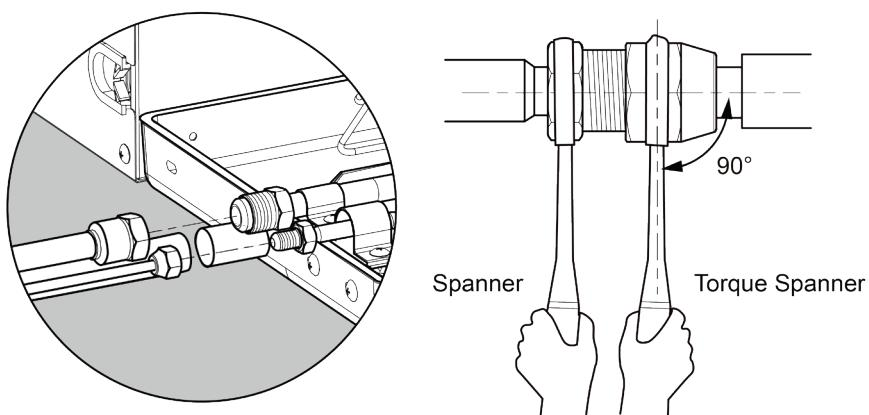

Fig.3.4.1
- (1) Before welding the pipeline sealing cap, please make sure there's no refrigerant in pipeline. If welding it directly, it may cause unnecessary property damage or personal injury.
- (2) Conform to the following principles during pipe connection: Connection pipeline should be as short as possible. The height difference between indoor and outdoor units should be as short as possible. Keep number of bends as little as possible. The radius of curvature should be as large as possible.
- (3) Weld the connection pipes between indoor and outdoor unit. Please strictly conform to the requirements for welding process. Rosin joints and pin holes are not allowable.
- (4) When laying the pipes, be careful not to deform them. The radius of bending parts should be more than 200mm. The pipes can't be repeatedly bent or stretched, otherwise the material will get harden. Do not bend or stretch the pipe over three times at the same position.
- (5) Please use a torque wrench to connect union nut on the indoor unit. See the Fig. 3.4.1 as below.